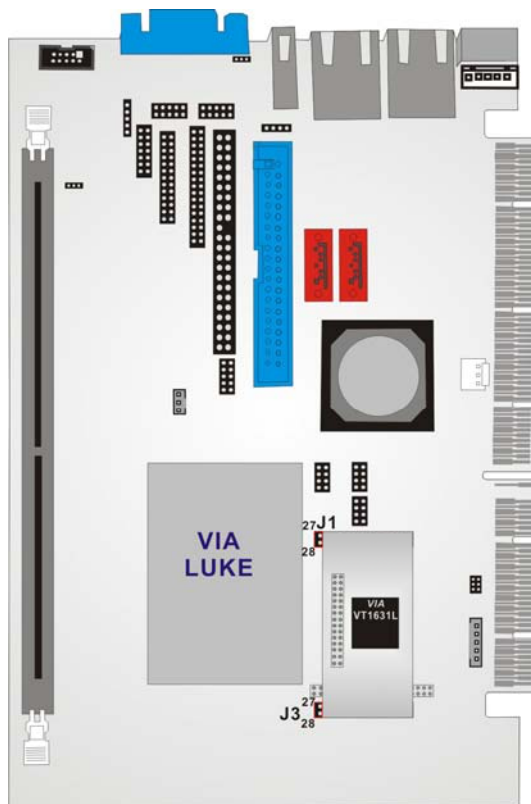

Figure 4-2: 18-bit TTL LCDC LVDS-LUKE-A Connectivity
Step 3: Slide the LCDC LVDS-LUKE-A onto the connectors. Pin 27 and pin 28 on both the J1 and J3 connector should be visible. See **Figure 4-2**.